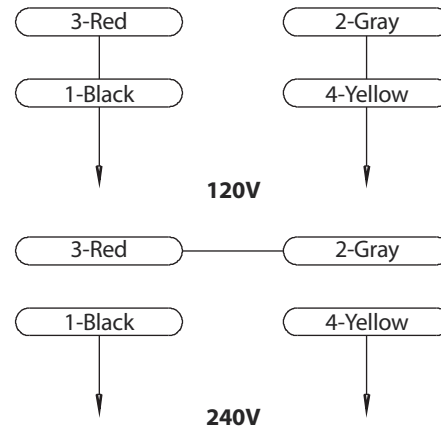

Figure 3 – Main Motor Wiring Diagram
- Rewire main motor to 240V. Refer to Figure 3 and motor nameplate for wiring schematic.